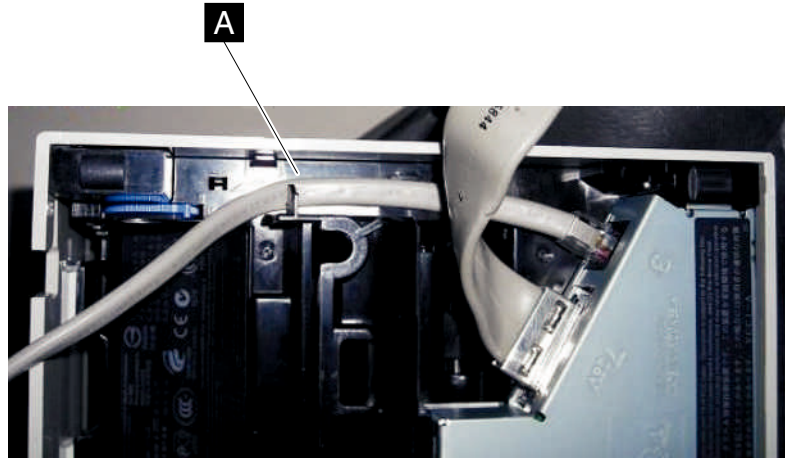

Figure 12. Cash drawer cable routing
1. Route the cash drawer cable through the cable slot (**A** in Figure 12).